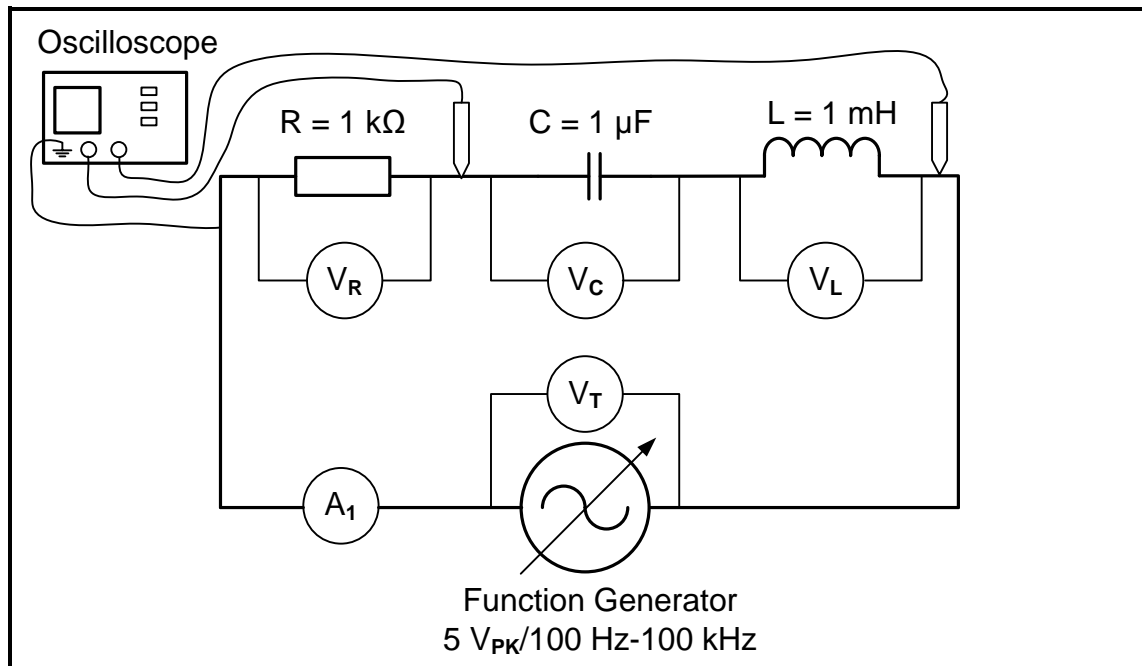

FIGURE 4.1.3
- Build the RLC series circuit in FIGURE 4.1.3 (see next page) on the breadboard using the components provided.